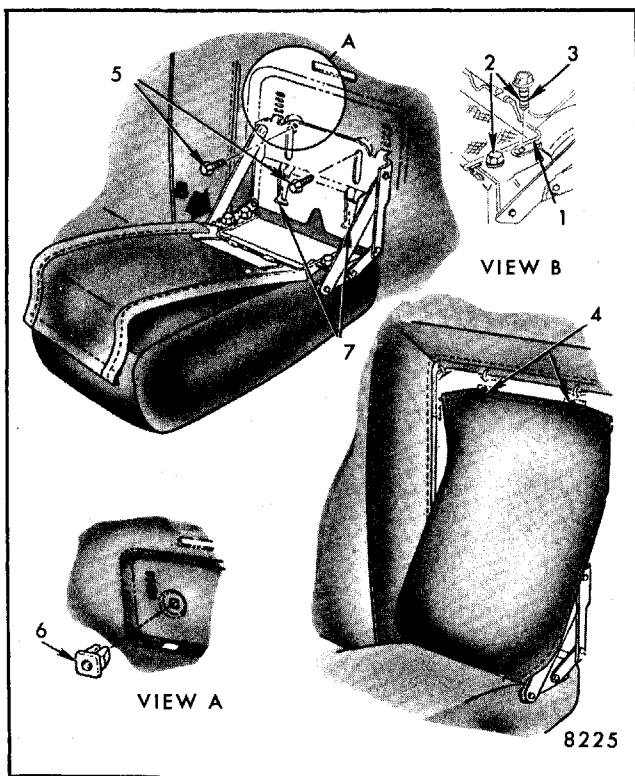

Fig. 9-87-Front Seat Back Center Armrest - Standard Full Width Seat Back - X Styles
Removal and Installation (Refer to Fig. 9-87)
4. To remove armrest and linkage assembly, first detach lower end of curtain from armrest as described in step 1. Remove linkage attaching screws (see 5 in Fig. 9-87); then disengage upper tabs of linkage from armrest support and lift armrest and linkage assembly upward to disengage lower tabs from slots in support and remove assembly from seat.